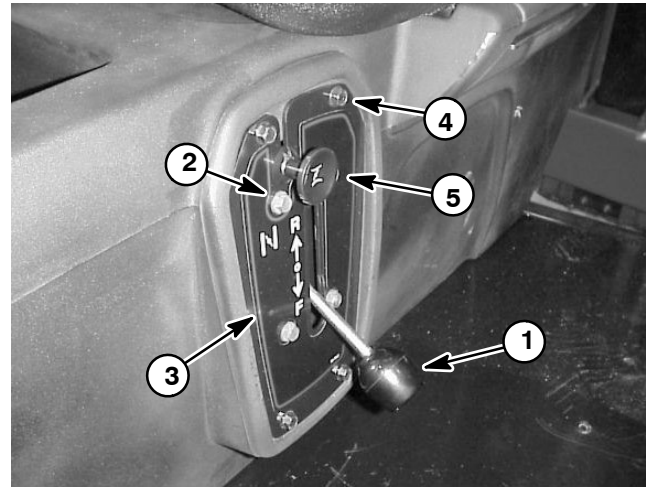

Figure 36
4. Unscrew knob from the shift lever. Remove four (4) short cap screws securing the shift plate to the shift bracket (Fig. 36).
5. Remove four (4) long cap screws securing the shift plate to the seat base (Fig. 36). Separate shift bracket from the choke cable and seat base.
6. Remove eight (8) flange head screws and flat washers that secure the seat base to the frame.
2. Install eight (8) flange head screws and flat washers through the frame and into the seat base. Tighten screws from the middle of the vehicle to the outside.
4. Position choke cable and shift plate to shift bracket making sure to capture cable flange. Secure shift plate to shift bracket with four (4) short cap screws. Screw knob onto the shift lever (Fig. 36).
5. Position shift plate with shift bracket to the seat base. Secure shift plate to seat base with four (4) long cap screws (Fig. 36).